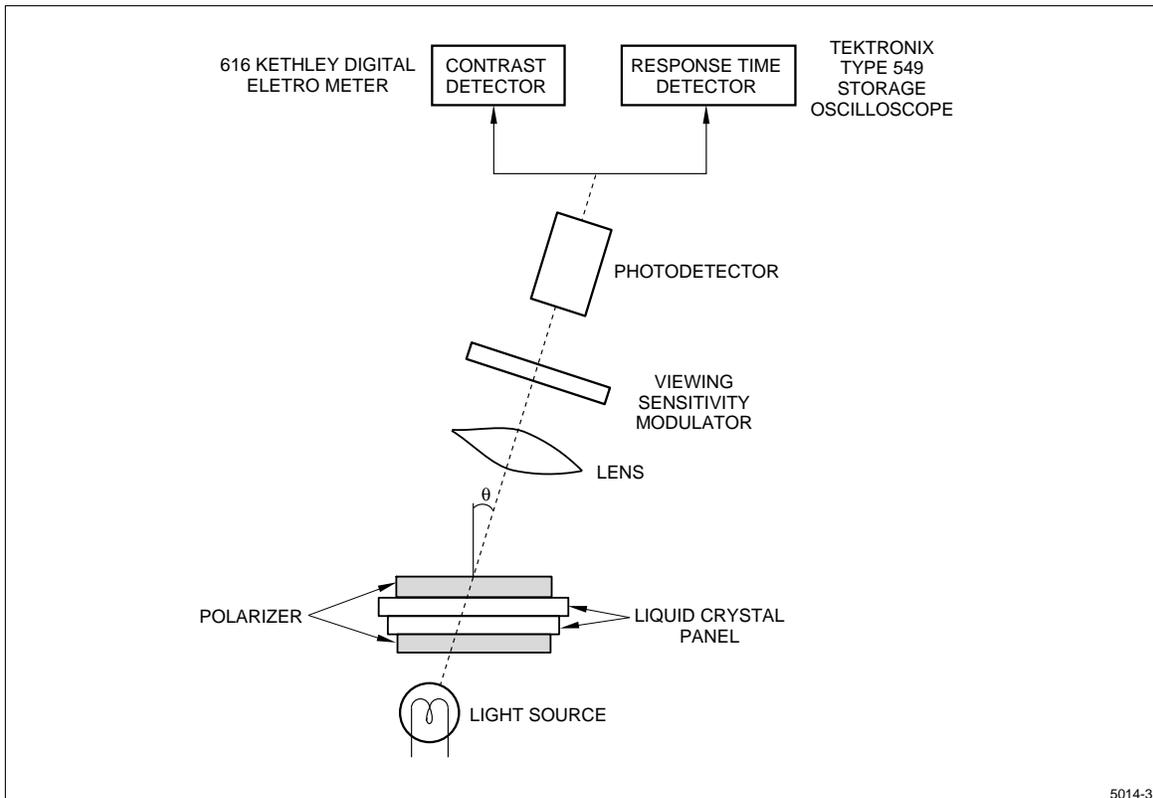
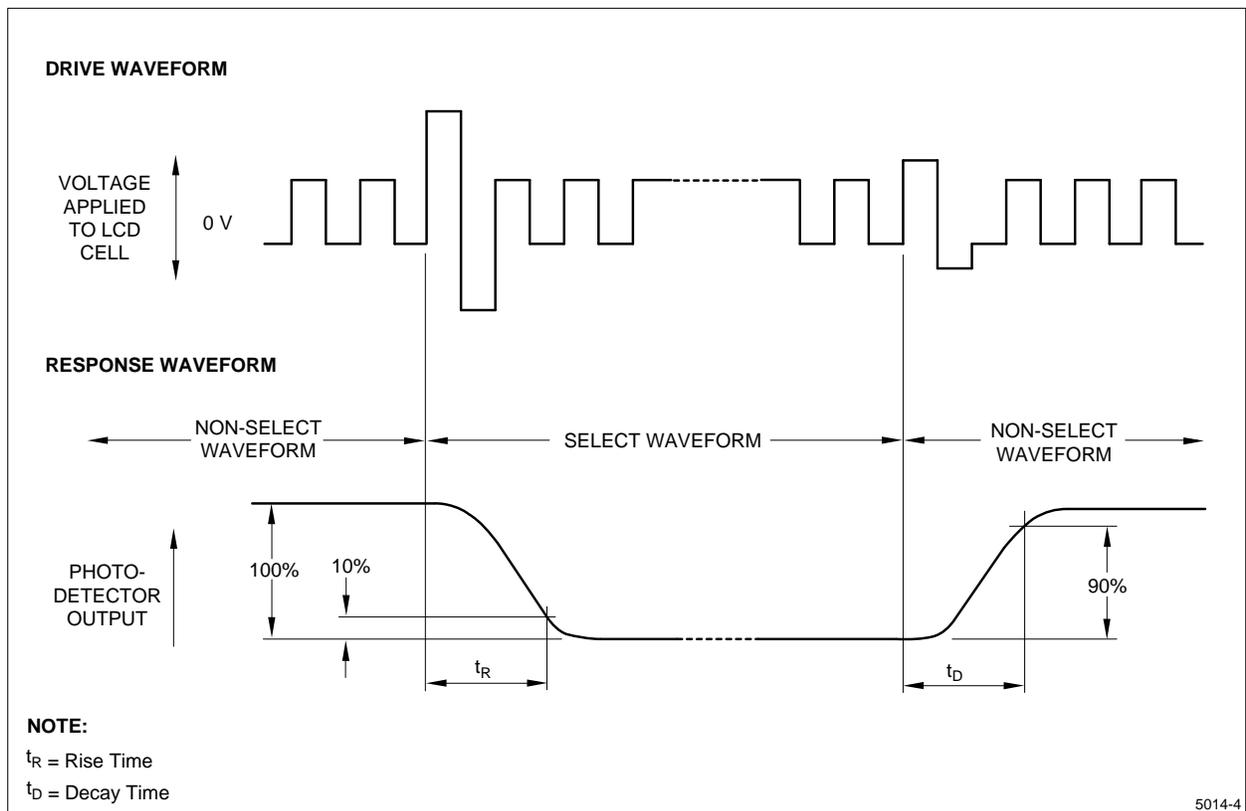

Figure 4. Optical Characteristics Test Method
Figure 5. Definition of Response Time
When input signal is applied to the unit to select (turn on) the LCD dots (pixels) to be measured in the optical characteristics test method as defined in Figure 4.
- When input signal for selecting or non-selecting the dots to be measured is applied using the optical characteristics test method shown in Figure 4. The response characteristics of the photodetector output are measured as shown in Figure 5.